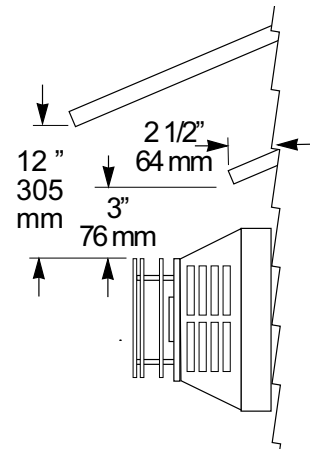

Figure 13. Termination clearances to exterior overhangs.
- The horizontal termination cap must maintain a 3" clearance (80 mm) to any overhead combustible projections 2 1/2" (60 mm) or less. Maintain 12" (300 mm) clearance from projections exceeding 2 1/2". See Figure 13.